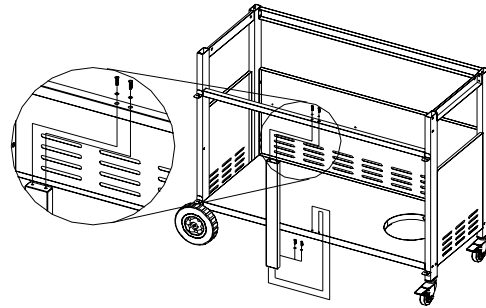

Figure 8
3. Attach the cart front support to the front cart frame beam and bottom panel using (4) 5/32 x 3/8" Phillips head screws and (4) 5/32" lock washers. (Fig.8)